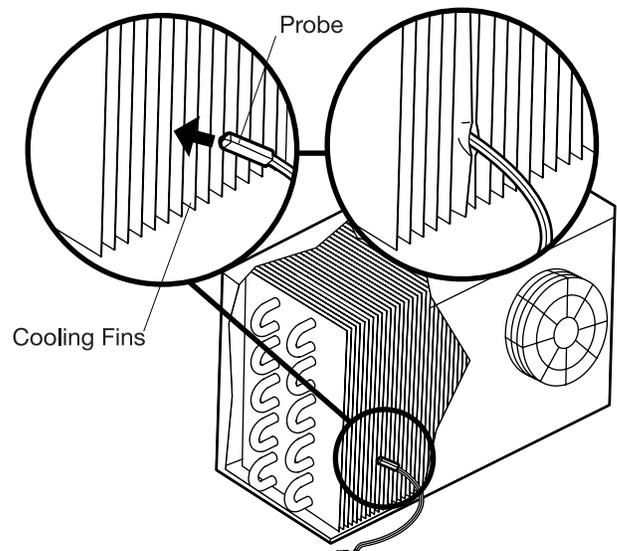

FIG. 5. Insert Thermistor Probe between Evaporator Cooling Fins
- Insert the probe between the cooling fins, as shown in FIG. 5. Ensure that the probe makes good contact with one of the evaporator tubes. Then, using needle nose pliers, carefully bend the cooling fins together to hold the probe firmly in place.